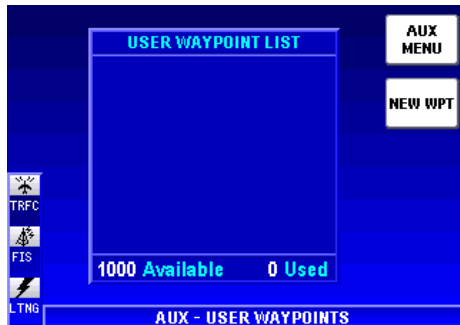

Figure 1-68
2. Press the **SELECT** Softkey to display the **USER WAYPOINT LIST** display as shown in Figure 1-68. Initially, the list will be empty. As waypoints are entered the list will be populated.